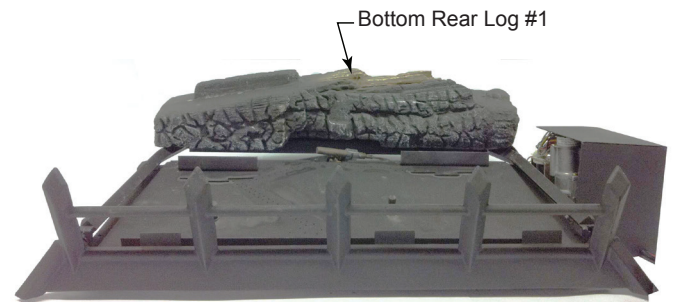

Figure 36
1. Place bottom log (#1) on two (2) pins on rear of grate assembly and push towards rear as far as possible. *Figure 36*